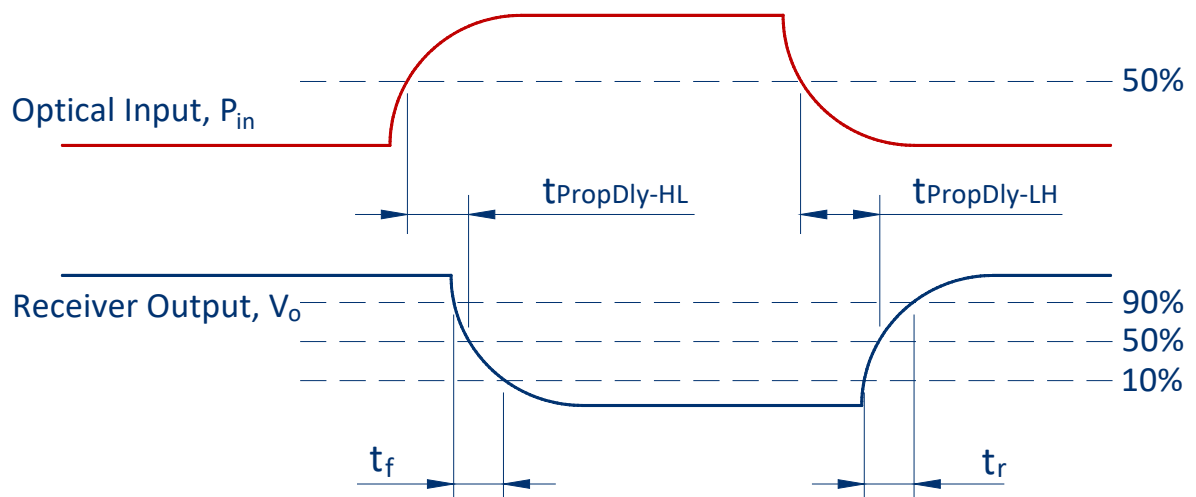

FIGURE 3
9. *Pin 4 is electrically isolated internally. Pin 4 may be externally connected to pin 1 for board layout compatibility with existing designs. Otherwise it is recommended pin 4 be grounded as in Figure 3.*